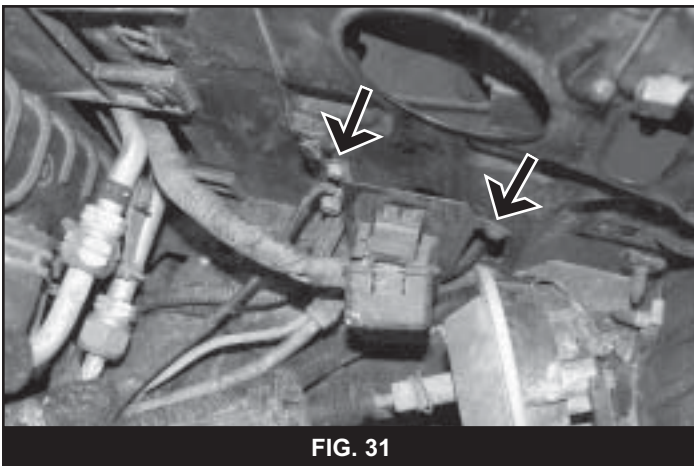

FIG. 31
62. 4wd only: NOTE: This modification is only necessary if the actuator will not bolt up to the original mounting holes as a result of the body lift. Measure and mark 1/2" to the inside of the positive battery cable terminal box bracket mounting holes on the passenger's side core support (Fig 31). Drill a 1/8" hole at each of the marks.